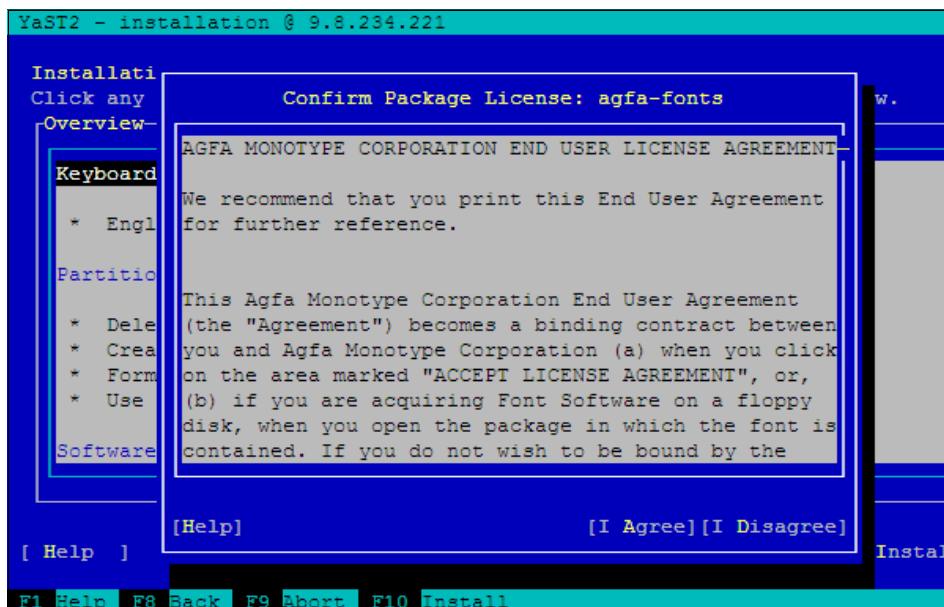

Figure 9-21 AGFA License Agreement
15. Select **[I Agree]** to the AGFA Monotype Corporation License Agreement, as shown in Figure 9-21 on page 383.